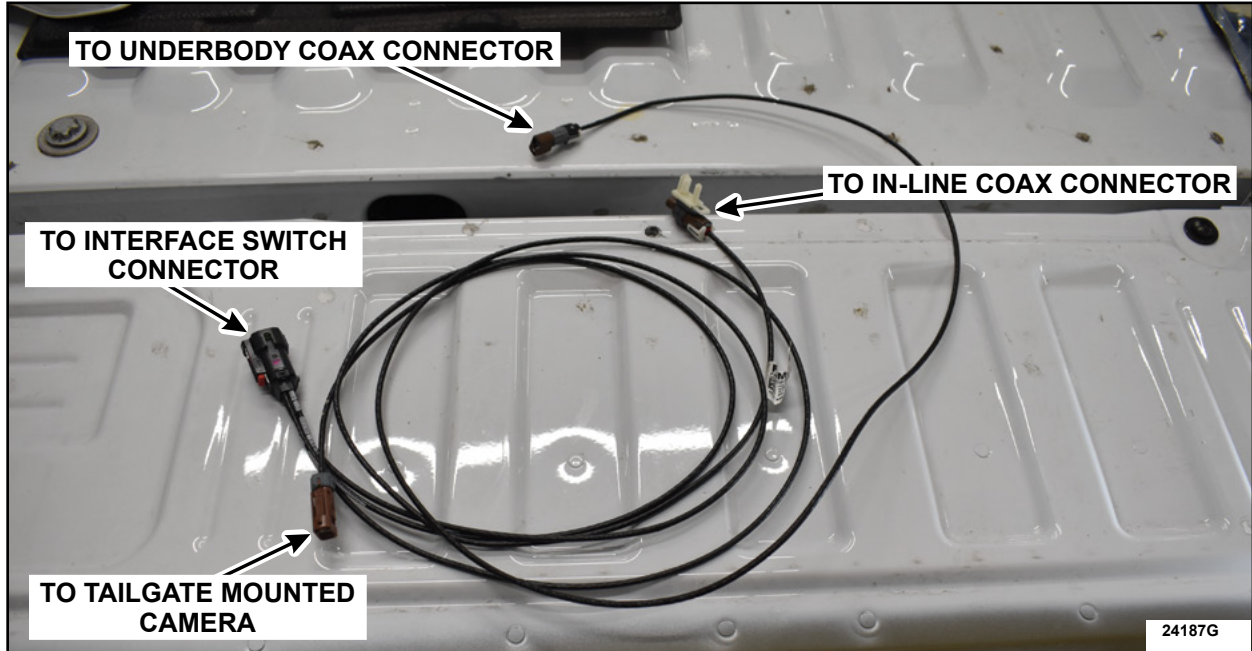

FIGURE 6
7. Using the overlay harness from the service kit, route the *new* underbody coax connector through the tailgate, from the service opening towards the wire harness opening at the bottom of the tailgate. See Figures 6, 7 and 8.
12. Route the interface module and the tailgate camera connectors, following the existing wiring harness, towards the left side of the tailgate. See Figures 6 and 11.